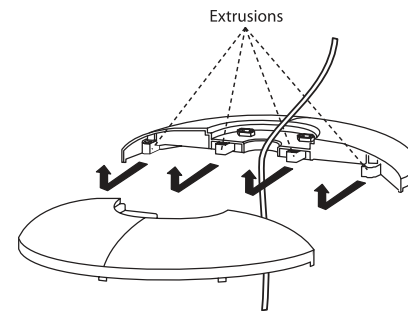

Fig. 4
- Align the two portions of the circular base and snap together by gently pushing the 4 extrusions into the adjacent circles of the connecting piece (Fig. 4).